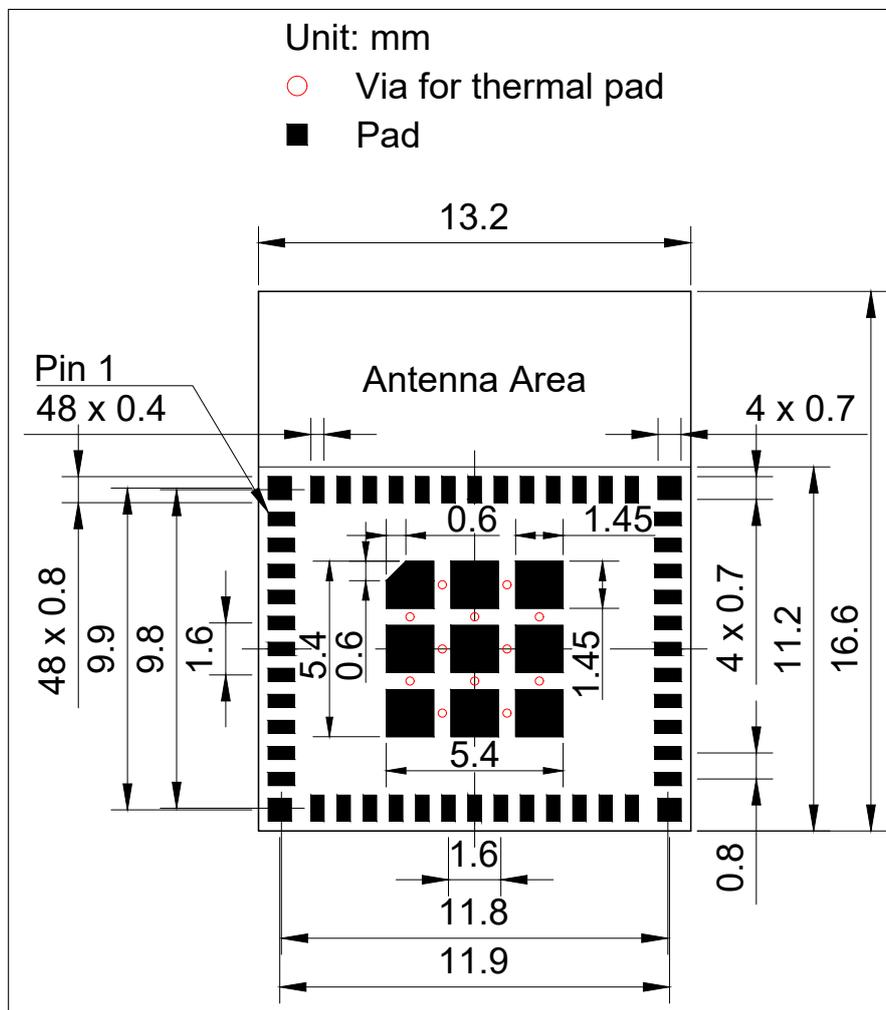

Figure 11: ESP32-H2-MINI-1 Recommended PCB Land Pattern
- Figure 11 *ESP32-H2-MINI-1 Recommended PCB Land Pattern* and Figure 12 *ESP32-H2-MINI-1U Recommended PCB Land Pattern*: the recommended PCB land patterns with all the dimensions needed for PCB design.
- Source files for ESP32-H2-MINI-1 and ESP32-H2-MINI-1U: the recommended PCB land patterns to measure dimensions not covered in Figure 11 and Figure 12. You can view the source files with Autodesk Viewer.